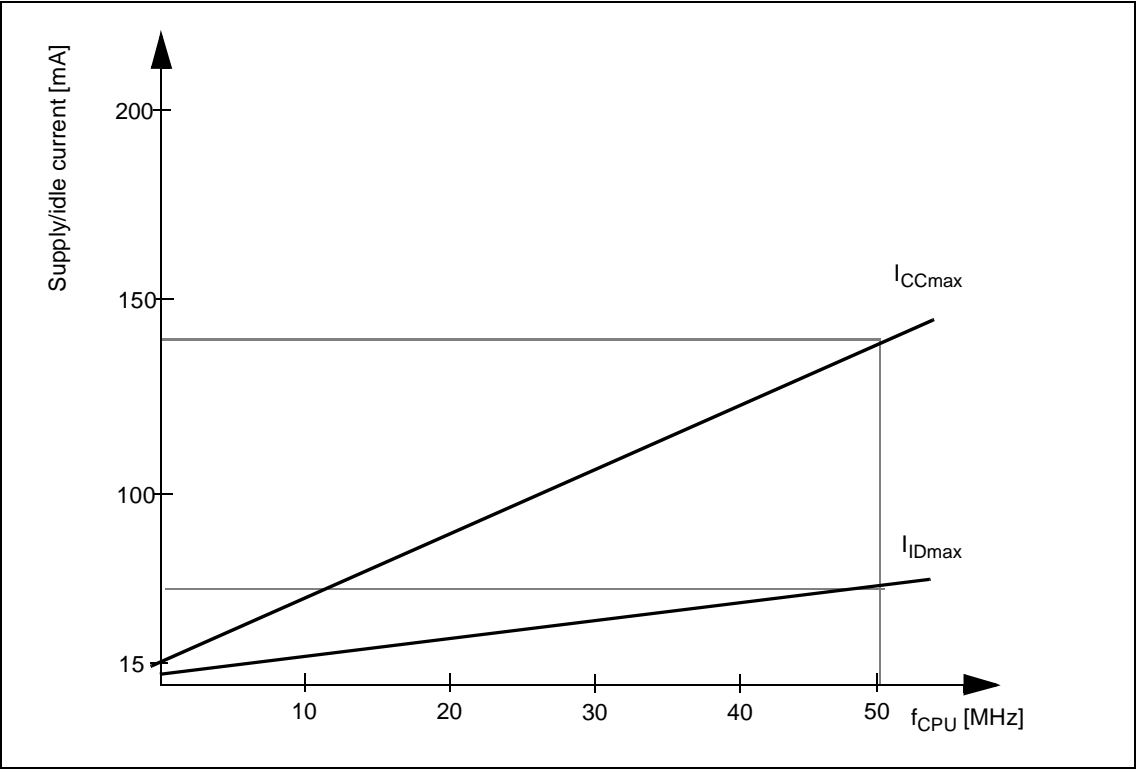

Figure 10 Supply/idle current vs operating frequency
- 7) Supply current is a function of operating frequency as illustrated in Figure 10 on page 44. This parameter is tested at V_{DDmax} and 50 MHz CPU clock with all outputs disconnected and all inputs at V_{IL} or V_{IH} with an infinite execution of NOP instruction fetched from external memory (16-bit demux bus mode, no waitstates, no memory tri-state waitstates, normal ALE).